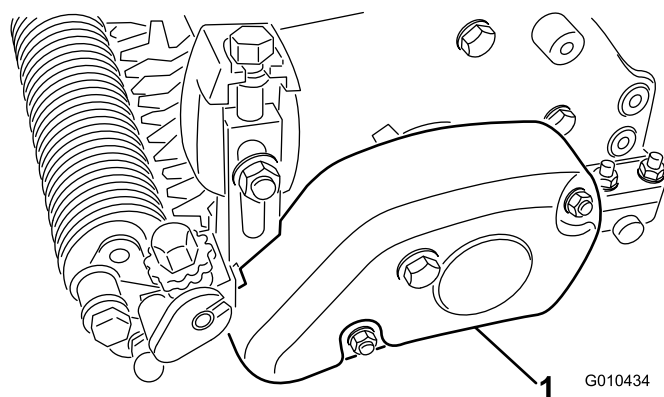

Figure 28
1. Remove the belt cover from the groomer housing (Figure 28).